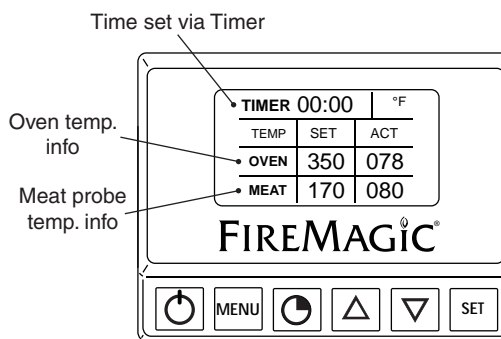

Fig. 13-2 Default screen detail
**Press the power button to turn the thermometer ON.** The default screen will be displayed. Temperatures for the oven and meat probe will be shown (Fig. 13-2). See below for options under the default screen.